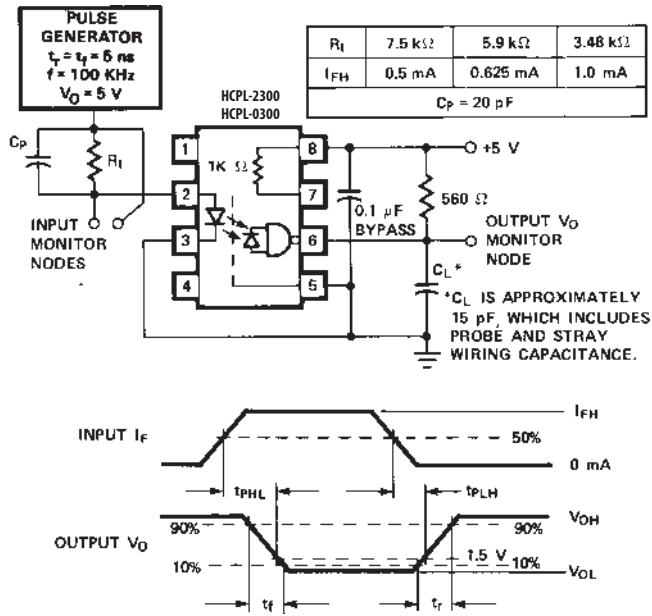

Figure 8. Test Circuit for t_{pLH} , $t_{pLH'}$, t_r , and t_f .
8. C_p is the peaking capacitance. Refer to test circuit in Figure 8.